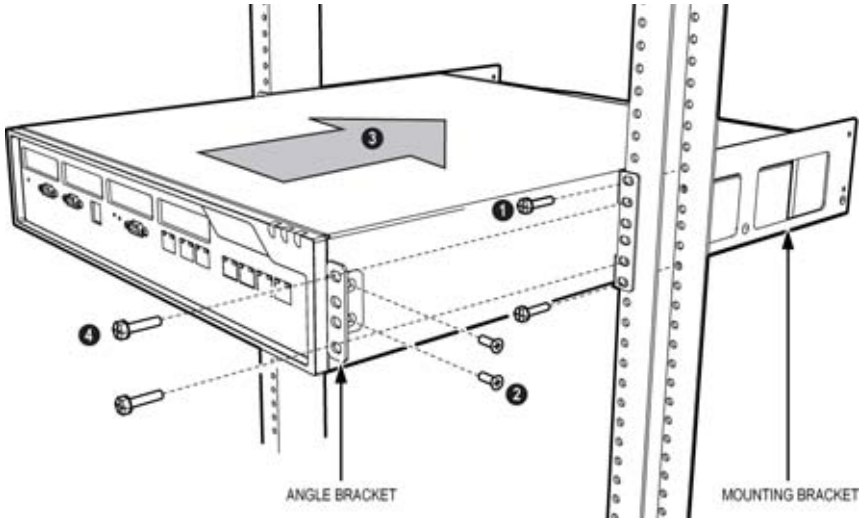

Figure 15: MXe and CX II/CXi II Controller Rack-Mount 4-Piece Bracket Installation
1. Position a mounting bracket inside the rack frame at the desired height. Fasten the mounting bracket to the front of the rack frame with two screws—one in the top hole, the other in the bottom (see 1 on Figure 15). Then do the same to fasten the other mounting bracket on the other side of the rack frame at the same height.
2. Fasten the angle brackets on each side of the cabinet. Align the brackets with the pre-drilled holes located near the front panel. Use two screws to fasten each bracket (see 2 on Figure 15).
3. Set the controller cabinet onto the mounting brackets and slide the controller cabinet into the cabinet (see 3 on Figure 15).
4. Fasten the angle brackets to the rack frame. Install two screws in each bracket (see 4 on Figure 15).